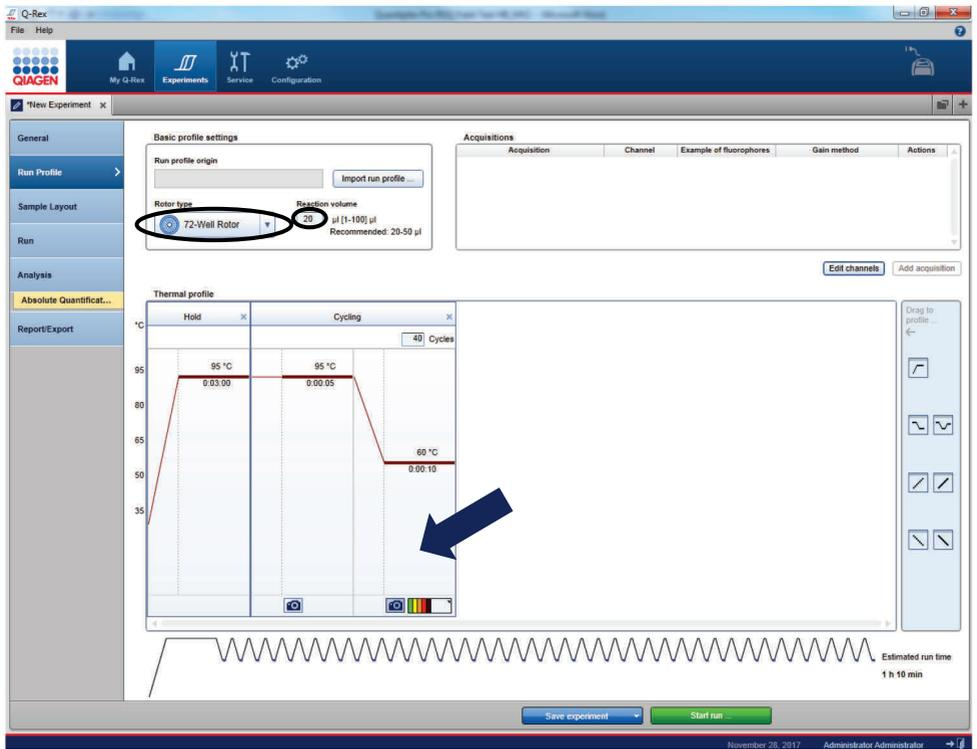
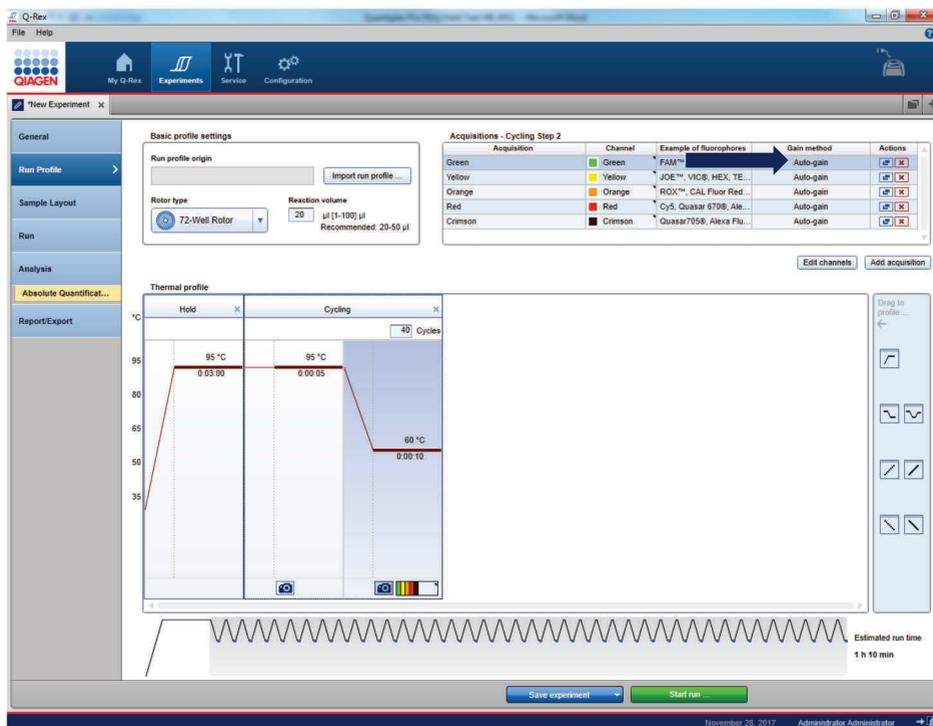

Figure 4. Run profile settings in Q-Rex.
Figure 5. Confirmation of auto-gain settings in Q-Rex.
15. Confirm Rotor type and Reaction volumes" (Figure 4).
17. Click in the thermal profile in the area above the colored camera symbol (indicated by arrow in Figure 4). Acquisition settings will be displayed (Figure 5).
18. Click on the "Auto-gain" field for the green channel (Figure 5).